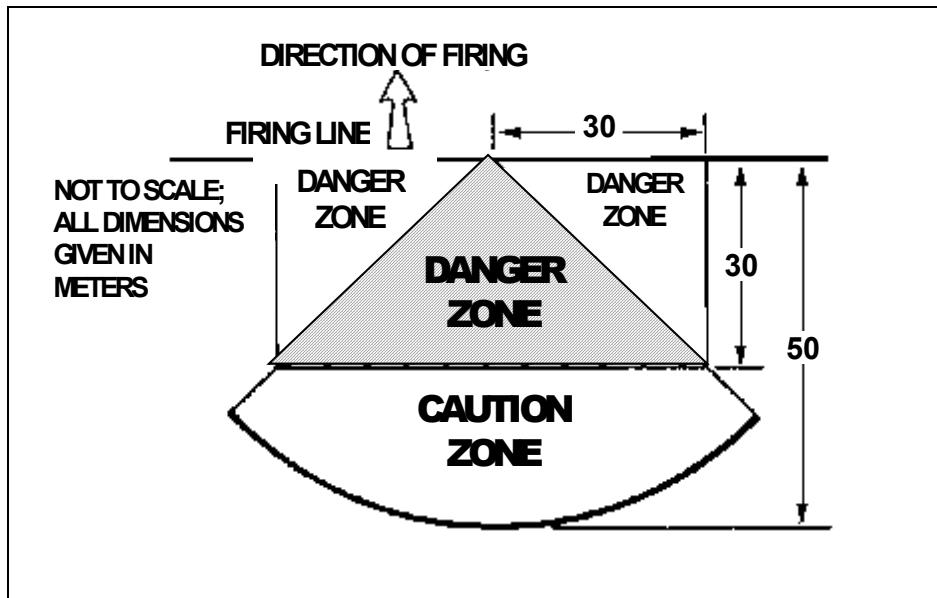

Figure F-1. Dragon backblast area.
(1) Avoid looking at the sun, flares, lasers, or searchlights while looking through the sight. Doing so magnifies their effect and could severely burn your eyes.
(2) The warhead will not arm within 65 meters, so try to avoid firing it within that range.
(3) Due to the risk of an accidental discharge, use extreme care when mating the sight to the round.
(4) Avoid going or placing any equipment or other items forward of the firing position.
(5) Never perform PMCS when the sight is mated to the round.
(6) If you are within 50 meters of a Dragon when it is fired, you must wear your earplugs.
(7) Never fire the Dragon over friendly soldiers or vehicles.
c. The Dragon backblast area extends 50 meters to the rear and 30 meters to the flanks of the launcher (Figure F-1, page F-2). This area is divided into two zones: a danger zone and a caution zone. Trainers must keep both zones clear during training.
(1) The *danger zone* extends 30 meters to the rear of the launcher in a 90-degree cone. Within this area, the blast, flame, and flying debris could cause deaths or serious casualties, so personnel must avoid this zone.
(2) The *caution zone* extends an additional 20 meters to the rear and 30 meters to the flanks of the danger zone. Personnel should try to avoid this area as well. To protect their eyes from flying debris, they *must* face away from the rear of the Dragon. To protect their ears from the blast and overpressure, they *must* wear earplugs.
Safety precautions apply in training just as they do during live firing. For example, during training, soldiers must practice and observe the same backblast precautions they have to observe during live fire (Figure F-1). Even the trainers (DFTT and MILES) generate sound and pressure levels that can damage hearing. Consequently, anyone in or near the firing area must wear proper hearing protection.